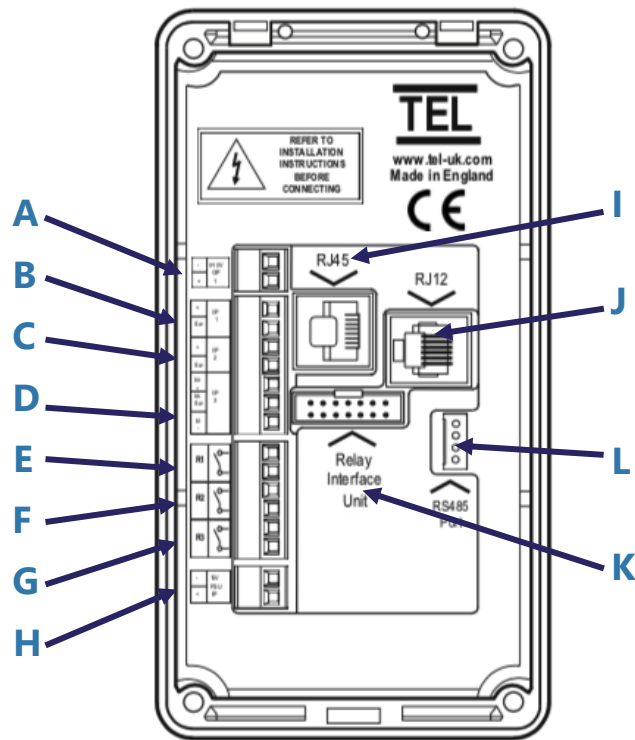

Figure 20: AFA4000/2 and AFA4000/2/AS monitor connections
1. Connect the power supply cable into the back of the AFA4000/2 (H in Figure 20) and to the connection on top of the fume cupboard.
2. Connect the 'telephone style' airflow sensor plug-in cable to the sensor and the back of the AFA4000/2 unit (J in Figure 20).